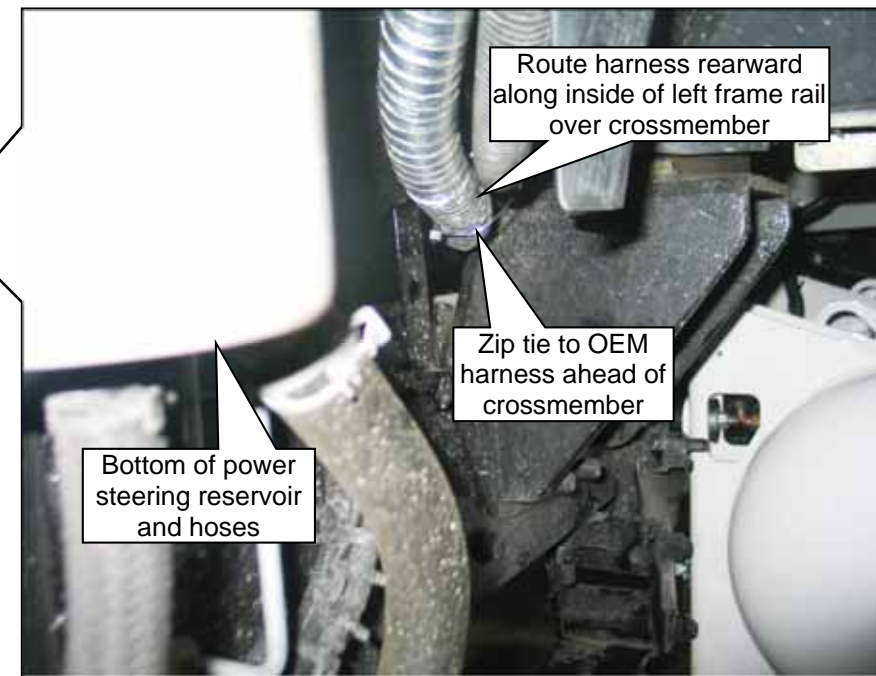

Figure 18.4
12. Continue the harness over the crossmember to the inside of the left frame rail. Zip tie to the OEM chassis harness. **Figure 18.4.**